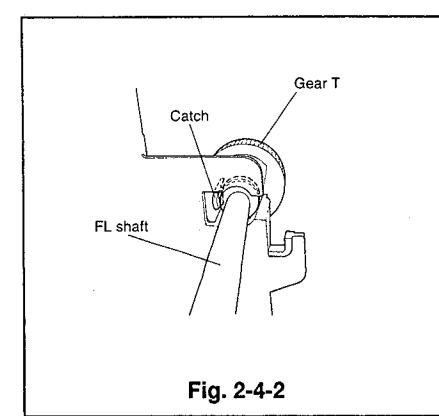

Fig. 2-4-2
- ① Follow the removal method in Items 1 to 5 of Para. 2-2.
- ② Unfasten the catch holding gear T from the inside of the cassette housing and remove the FL shaft to which the gear S and T are attached. (Refer to Fig. 2-4-2)
- ③ Pull out the gears S and T from the FL shaft.